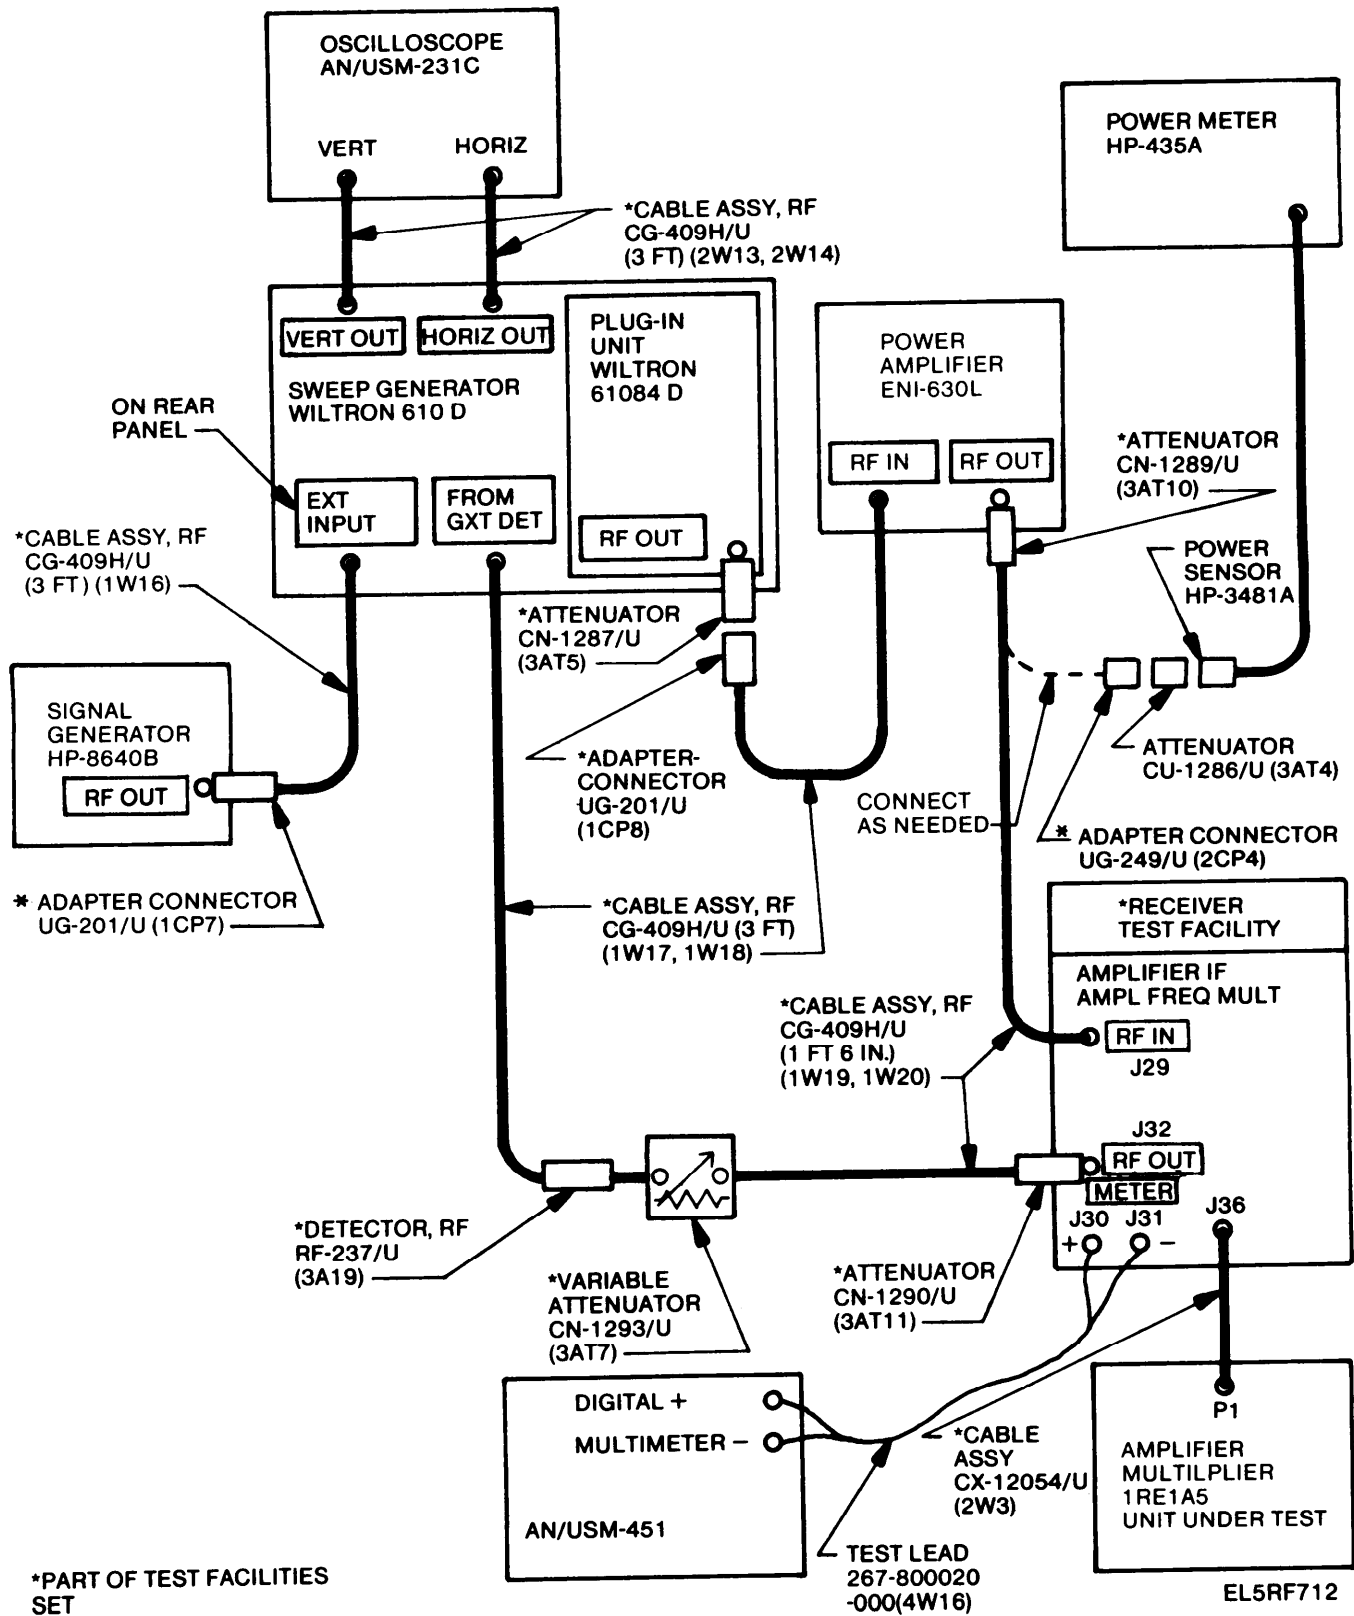

Figure 3-49. Amplifier-Frequency Multiplier 1RE1A5, Power Output Response, Test Setup
(c) Connect the equipment, calibrated as in (1) above, to the unit under test as shown in figure 3-49.